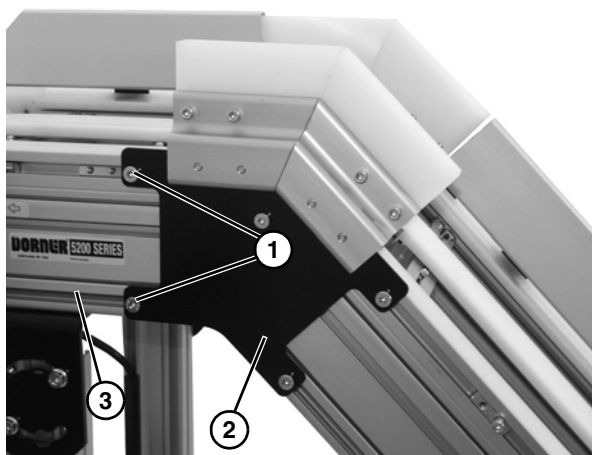

Figure 6
1. Attach upper knuckle to frame by loosening two socket head capscrews (**Figure 6, item 1**) on each side of upper knuckle assembly (**Figure 6, item 2**), and sliding T-Nuts into straight frame section (**Figure 6, item 3**).